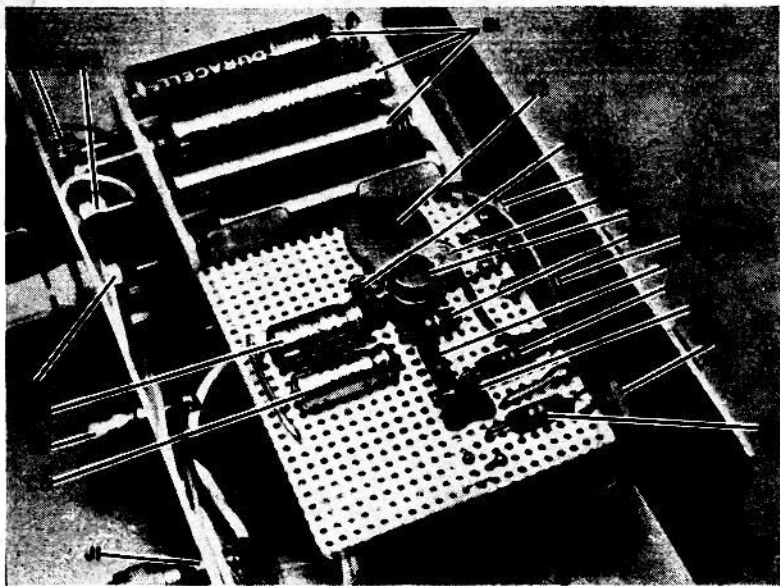

Fig. 2. The author constructed his Voxor on a section of perf board, although any other type of construction may be used. Sockets were used for both IC1 and Q1.
**Construction.** The circuit of the Voxor (see Fig. 1) can be built on either perf board or on a printed circuit board. A possible layout is shown in Fig. 2. Components not shown in the figure are below the perf board. To make wiring easier, it is suggested that a 10-pin integrated circuit socket be used for IC1. Once the board is complete, it can be mounted on standoffs and connected to the external components.